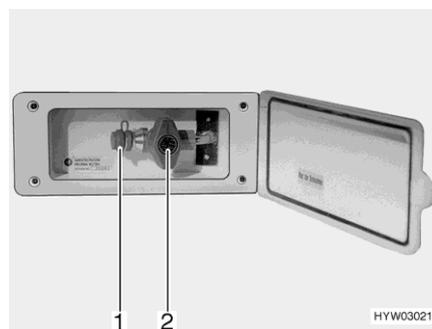

Fig. 110 External gas connection
- Connect the external gas device to the connection point (Fig. 110,1).
- Open the gas isolator tap (Fig. 110,2).